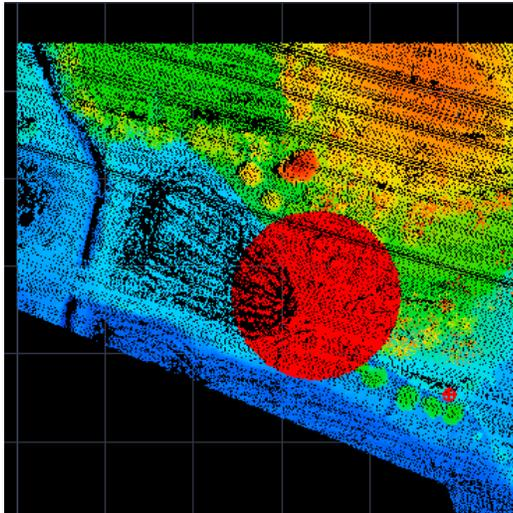

Figure 3-109 Circle Selection
- (1) Click the menu <Tools> → <Circle Selection>.
- (2) In the view, click the left mouse button to determine the location of the center of the circle, move the mouse to the appropriate radius and then click the left mouse button again to draw a circular box, the points within the circle will be in the selected state and change the color (Figure 3-109).
- (3) The selected state of the point cloud color can be set up in the <Document> → <System Settings> → <Selected Points Color>.